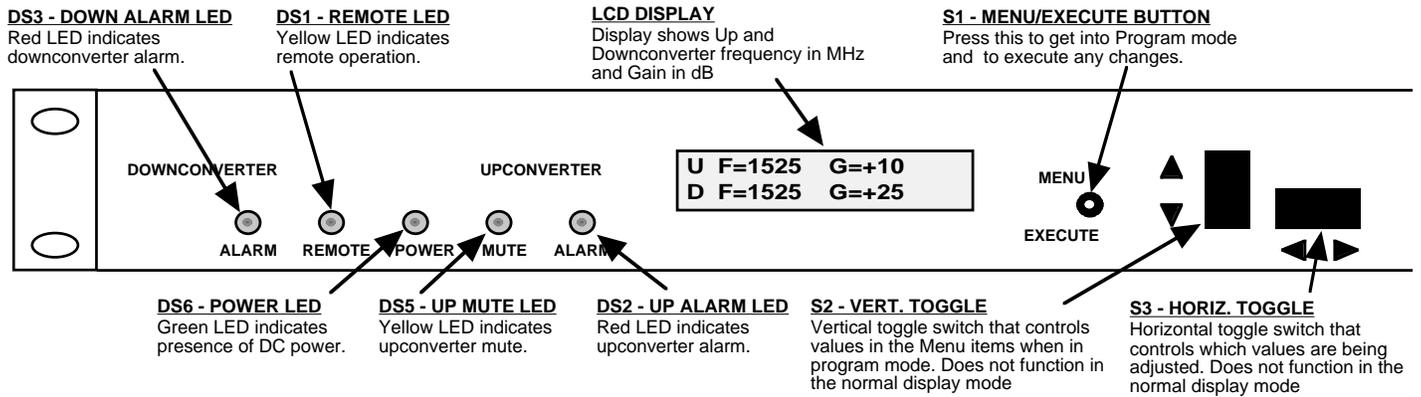

Figure 2.2 Model 2017-05 Front Panel Controls and Indicators
- 8.) Be sure DS6 (green, DC Power) is on and DS2 (red, Alarm) is off (Figure 2.2).
- 7.) Be sure DS6 (green, DC Power) is on and DS2 (red, Alarm) is off (Figure 2.2).
Alarm indications appear on the LEDs (see figure 2.2).